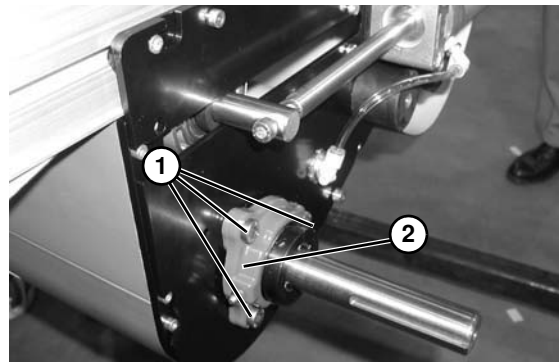

Figure 180
5. Remove the three mounting screws (**Figure 180, item 1**).
6. Remove and replace bearing housing assembly (**Figure 180, item 2**).